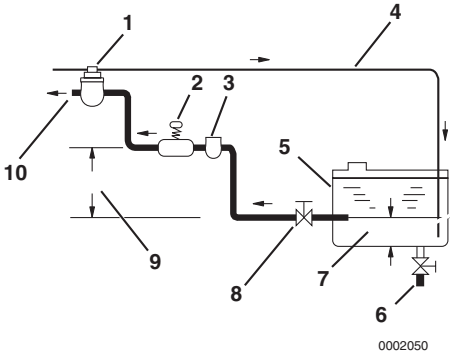

Figure 1
Be sure to install a drain cock (Figure 1, (6)) at the bottom of the fuel tank to remove water and contaminants.
Install an fuel filter / water separator (Figure 1, (3)) and a fuel filter between the fuel tank and the fuel injection pump.